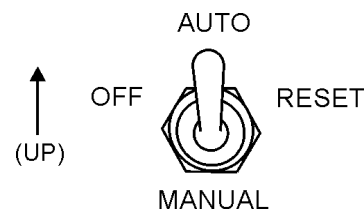

Figure 57. Off/Manual/Auto Switch (Manual)
2. Place the Off/Manual/Auto switch (Figure 57) in the **AUTO** position (up). Observe that the engine begins to crank.